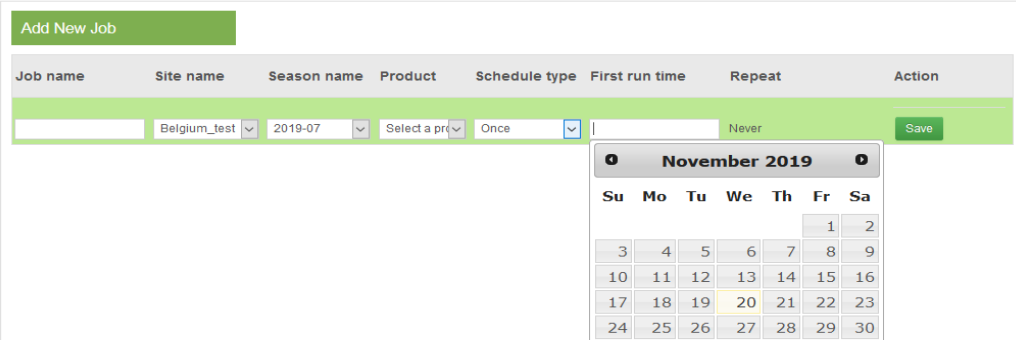

Figure 4-26. Adding “Once” scheduled type
- “Once” – this options specifies to the scheduled task to run only once at the specified date. Selecting this option, a new field “Date” will be added to the entry where the user can select the date when the scheduled task should run (Figure 4-26):